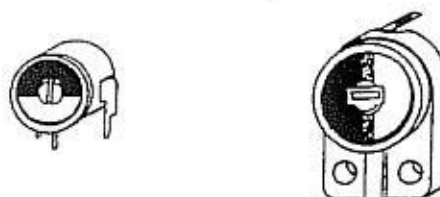

Figure 6.6 — Variable Capacitors Shown at Midrange Capacitance Settings
f. Preset all RF Amplifier variable tuning capacitors to their mid-range settings according to the diagram in figure 6.6.
j. Key transceiver, tune PA TUNE control for maximum output, and adjust L1 through L4 for maximum output. The positions of the slugs should be fairly even from coil to coil. Make sure tuning capacitors are all at half capacitance. Refer to figure 6.6.